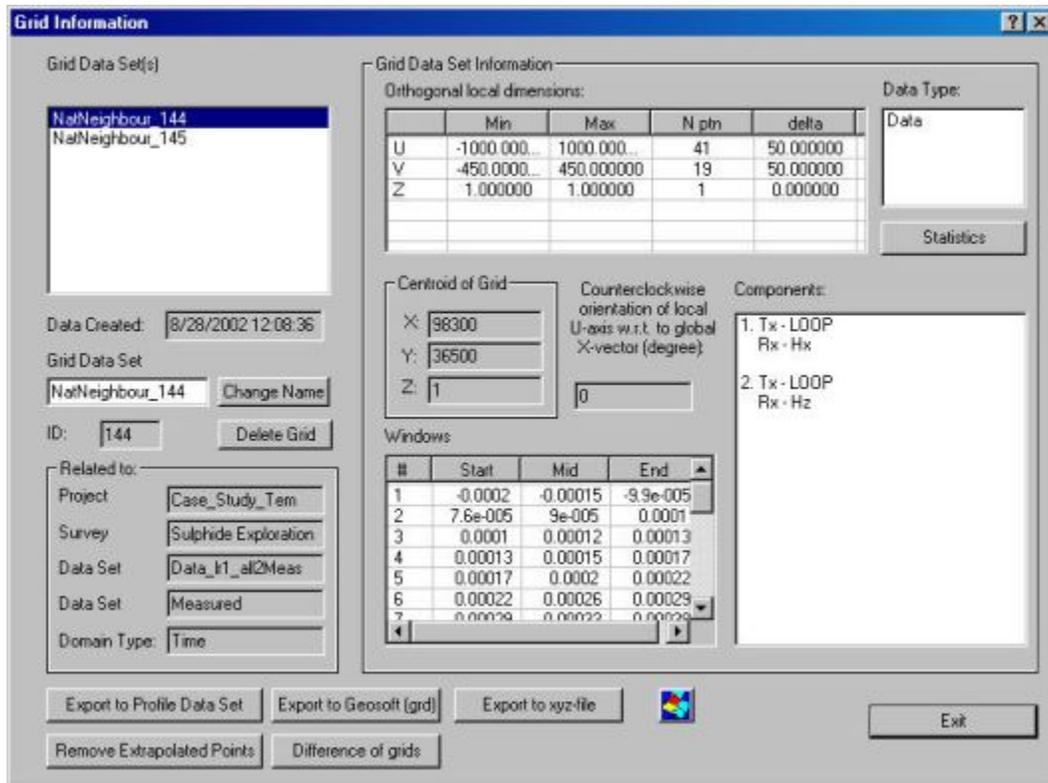

Fig. 9
To export your grid into a separate survey/data set, click the **Export to Profile Data Set** button in the bottom of the **Grid Information** dialog, Fig. 9. The **Export to a New Survey as a Profile Data Set** dialog appears with the **Orthogonal Local Dimensions** field displaying the coordinates of your grid
To use your data in Geosoft's Oasis Montaj, export them into the Geosoft format. Click the **Export to Geosoft (.grd)** button in the bottom of the **Grid Information** dialog, Fig. 9. This will bring up the **Geosoft Export** dialog:
- Click the **Export to xyz-file** button in the bottom of the **Grid Information** dialog, Fig. 9. The **XYZ Export** dialog will open offering two different options of export: one transfers data to the standard XYZ format and the other to the Geosoft's Oasis Compatible XYZ format:
- Click the **Remove Extrapolated Points** button in the bottom of the **Grid Information** dialog, Fig. 9. This will bring up the **Set Spatial Radius** dialog:
Your new grid will appear in the **Grid Data Set(s)** list of the **Grid Information** dialog, Fig. 9.